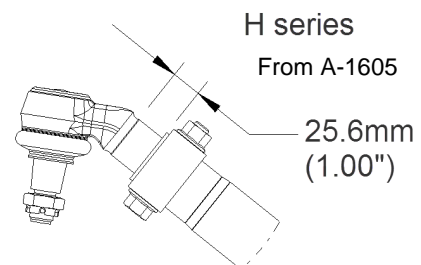

FIGURE 5
9. Unscrew the *drag link elbow* ball joint out **1 inch**. The tapered shank must point down as shown on FIGURE 5.